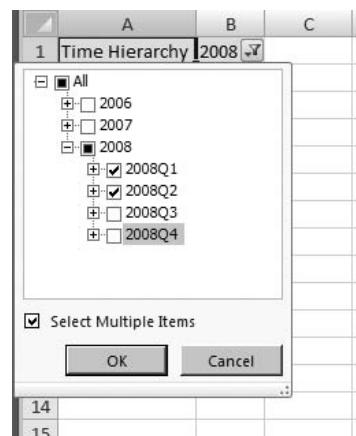

Figure 19-9 The Time Hierarchy report filter
21. Uncheck the 2008Q3 and 2008Q4 items in the list. The Time Hierarchy drop-down window appears, as shown in Figure 19-9.